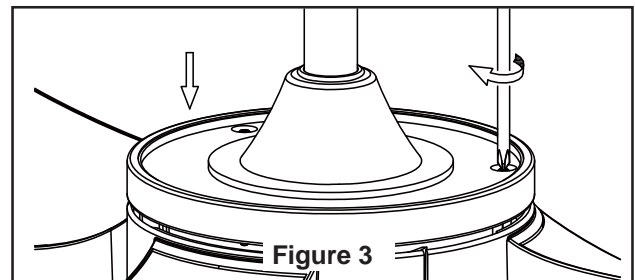

Figure 3
3. Tight the two screws from the cover housing upper. (Figure 3)